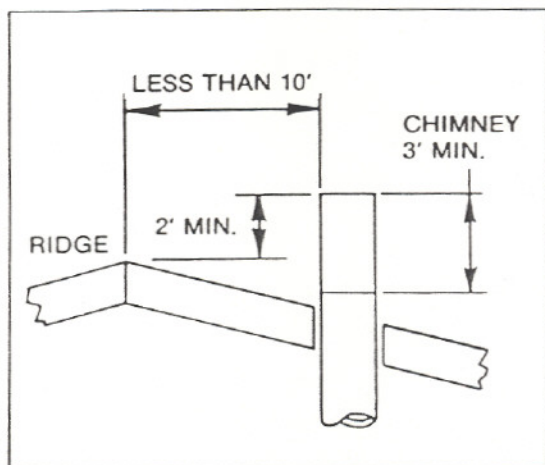

Figure 9
1. If the horizontal distance from the side of the chimney to the peak of the roof is ten feet or less, the top of the chimney must be at least 2 feet above the peak of the roof but never less than 3 feet in height above the highest point where it passes through the roof. See Figure 9.